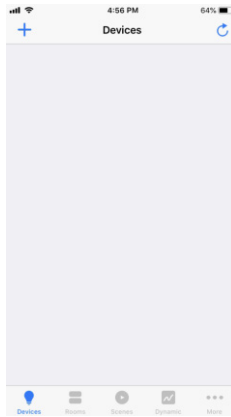
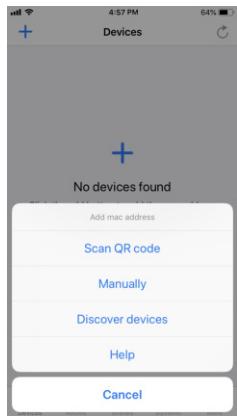
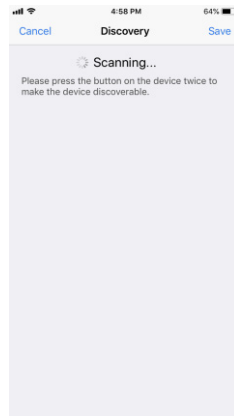

Figure 3
Figure 4
Figure 5
4. Run H2A APP, tap add button "+" on the APP to add device, then choose "Discover devices" to discover device, then **short press the "Reset" button on the dimmer twice** (or **reset power of the dimmer twice continuously**) to set the device into pairing to APP mode. (As shown in **Figure 3 & Figure 4 & Figure 5**)